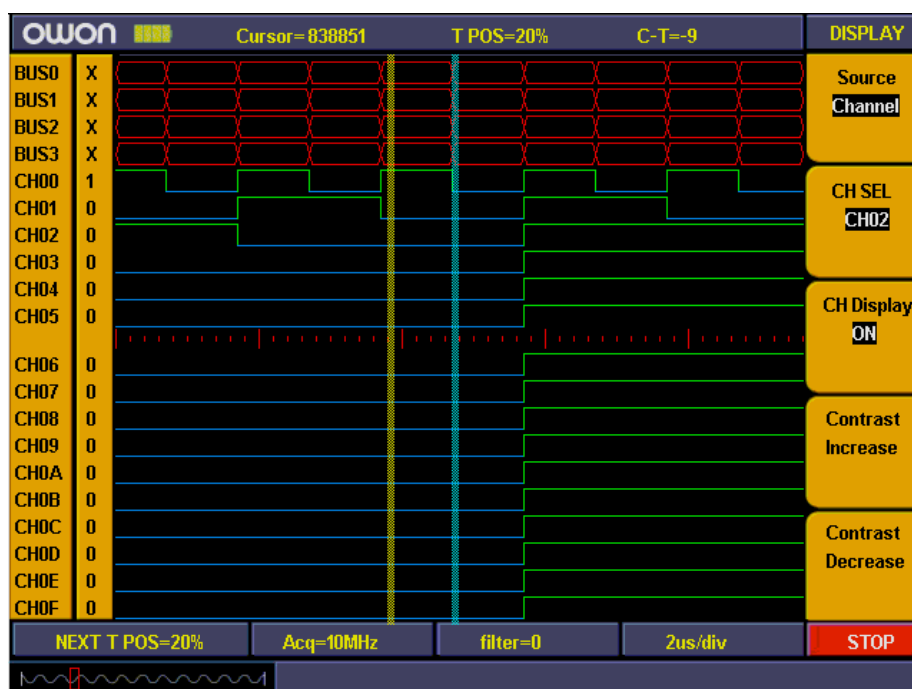

Figure 13
- 4、 Press “**F3**” and set the signal sources as “**ON**”. Repeat operation of steps 3.4 and set CH01, CH02 as “**ON**” and CH03-CH0F as “**OFF**”. Refer to fig. 13